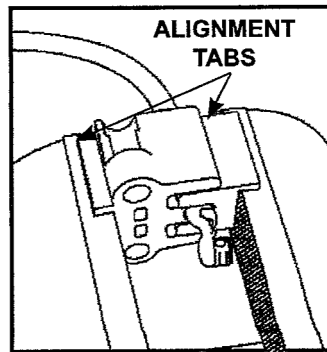

Figure 7
- Put the assembly into a vise making sure the alignment tabs are on the outside edge of the vise jaws (Figure 7).